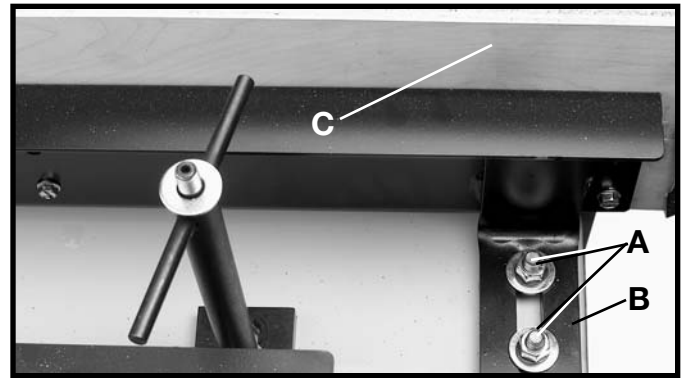

Fig. 29
3. Loosen two hex nuts (A) Fig.29 holding brackets (B) at each end of the machine, and move platen (C) in or out as needed.